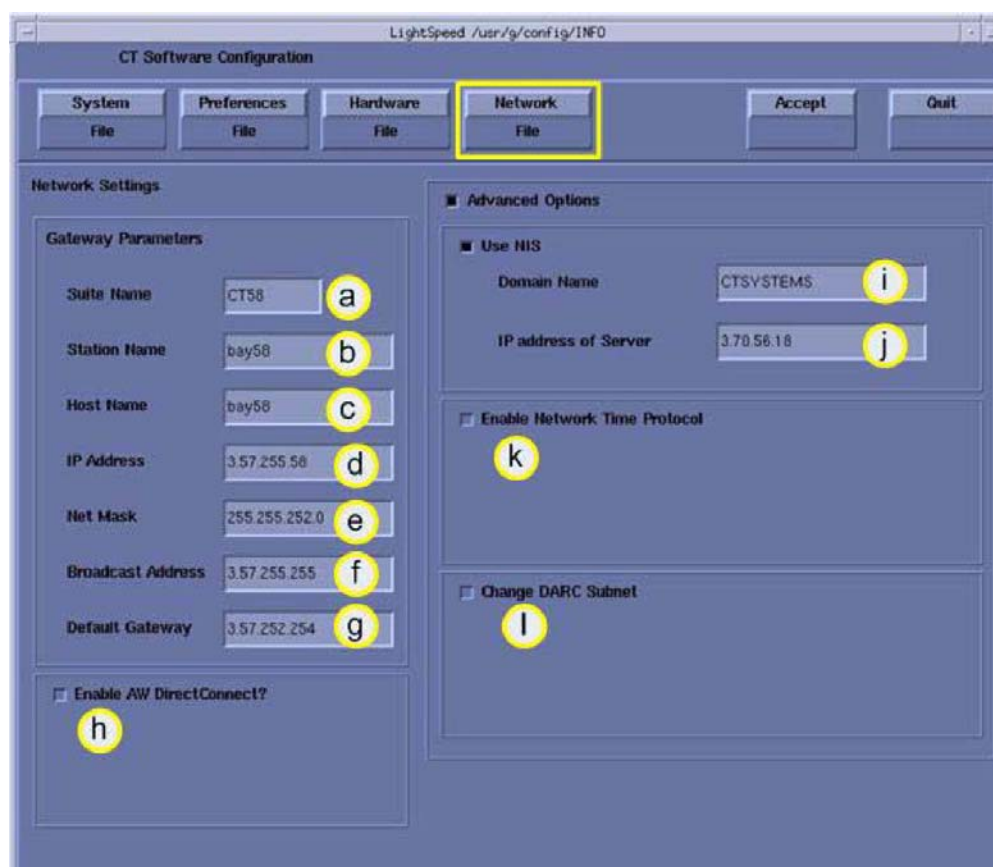

Figure 6-7 Network Settings Screen :
- 10.) Click the NETWORK button to display the Network Settings Screen, as shown in Figure 6-7.